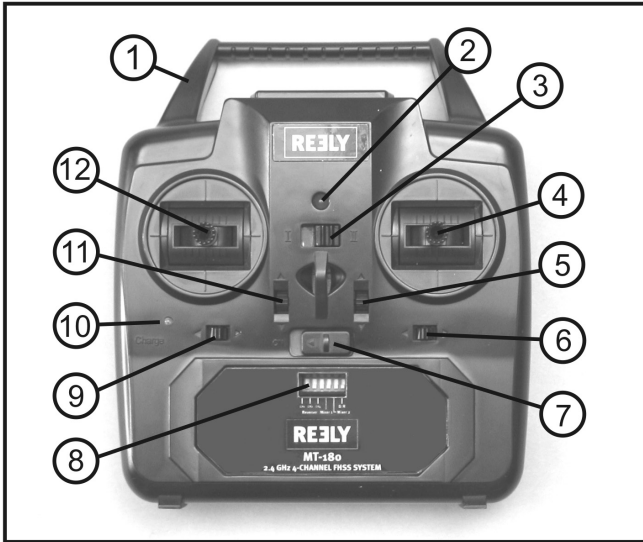

Figure 1
With the help of the mode switch (also see figure 1, item 3), the remote control cannot be operated in mode 1 or mode 2. If the switch is pushed to the left position, mode 1 is activated. If the switch is pushed to the right position, mode 2 is activated.
Therefore, the control lever for the motor function must be put in the centre position before the mode switch is operated (figure 1, item 3). To prevent the drive motor of the model from starting up unintended, neither the transmitter nor the model must be in operation during mode switching.
When new batteries are inserted, switch on the transmitter with the function switch (see figure 1, item 7) for test purposes. For this, push the function switch from the right switch position „OFF“ to the left switch position „ON“.
To indicate correct voltage supply, the red function control lamp lights up (see figure 1, item 2), and the transmitter issues a short signal.
When the receiver electronics in the model have an integrated protection circuit to prevent unintended start-up of the drive motor, you also need to make sure before any commissioning of the transmitter that the control lever for the motor function (see figure 1, item 4 or 12, depending on the mode set) is in the „Motor off“ position. For this purpose, the control stick must be pushed down completely or pulled towards you as far as possible.
When the battery was pushed into the charging chute correctly and the plug connector of the battery (4) has established a contact in the charging chute, the charge control lamp (see figure 1, item 10) lights up and signals correct charging.